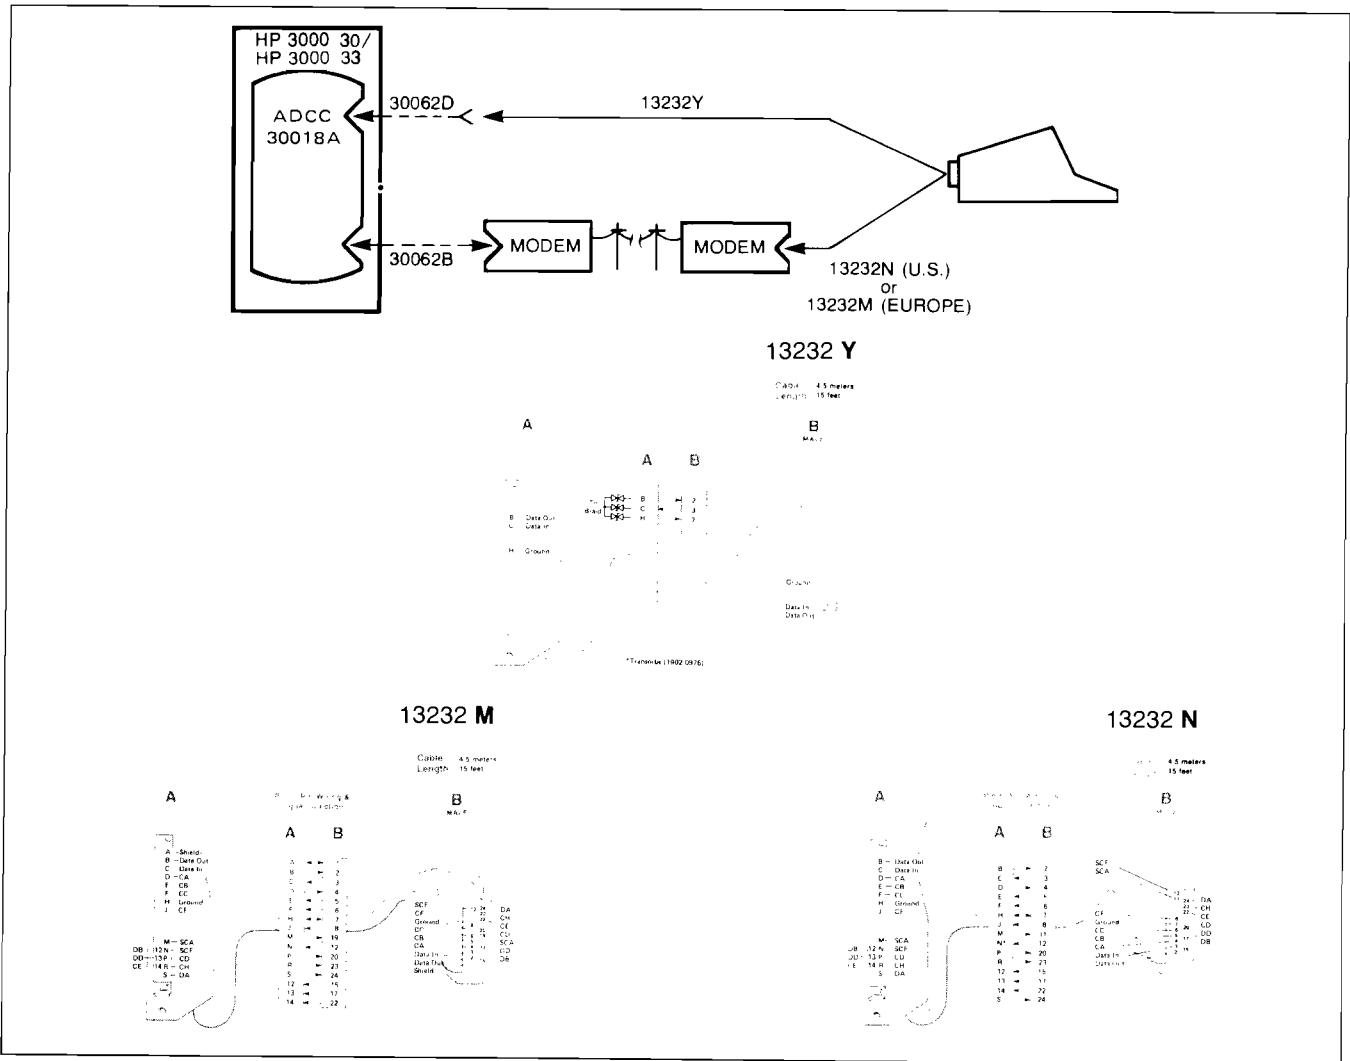

Figure 1-12. Connecting the Terminal to the HP 3000 Series 30/Series 33 Computer System
To connect the HP 2647A terminal to an HP 3000 Series 30/Series 33 Computer System, refer to figure 1-12 and perform the following:
- BLOCK MODE: UP (OFF) or DOWN (ON)
6. Connect the following cables (see figure 1-12):